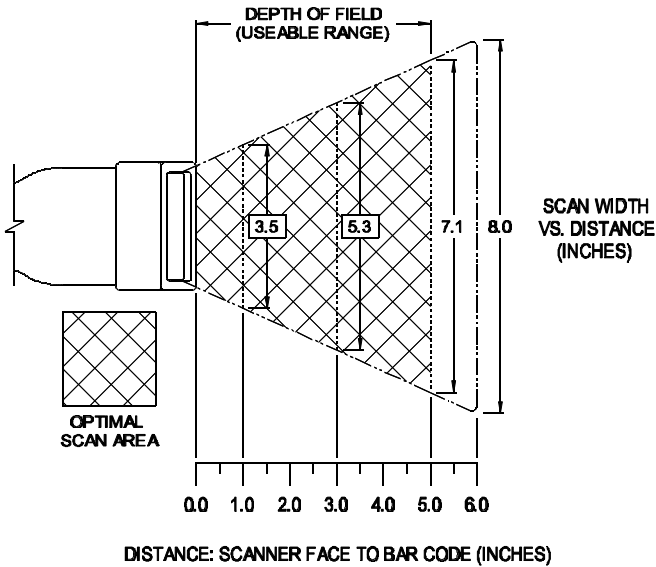

Figure 7
The depth of field for the scanner is from the face of the output window to five (5) inches (Refer to Figure 7). If the scanner is in the stand, present the bar code to the scanner. When holding the scanner, position the output window within five inches of the bar code.